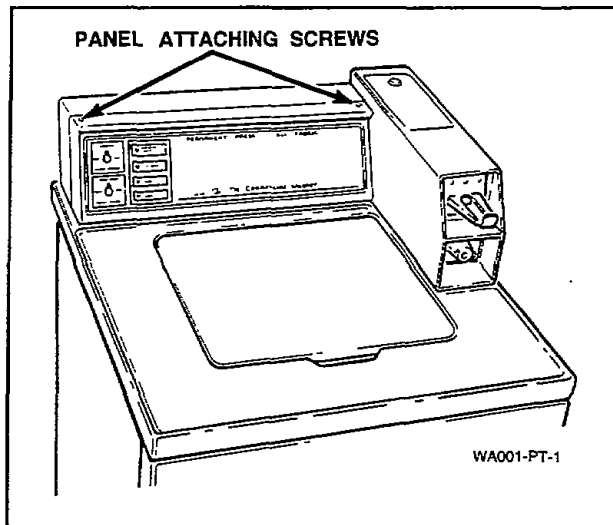

Figure 5
5. CONTROL PANEL (Refer to Figure 5)
- Remove two control panel attaching screws and lift assembly off cabinet top, Figure 5.
- d. Remove two control panel attaching screws, Figure 5, and lift assembly off cabinet top.
- Remove the two control panel attaching screws and lift assembly off cabinet top, *Figure 5*.